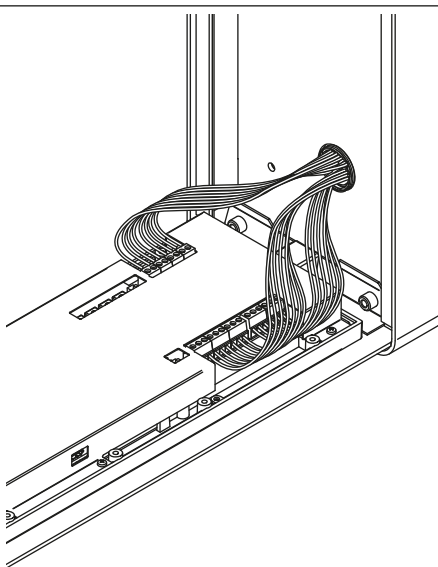

Fig. 4
4. Connect the wires using a terminal screw driver then setup the dip-switches as per provided connection diagram or instruction sheet, then power up the system and check that it works correctly (**Fig. 4**);